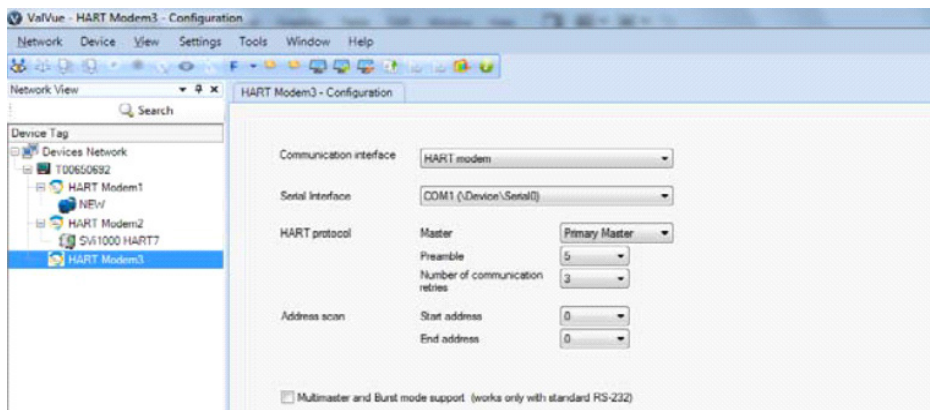

Figure 18 - HART Modem Configuration Tab
2. Click **OK** again to add the *HART Modem* to *Network View* and Figure 18 appears.